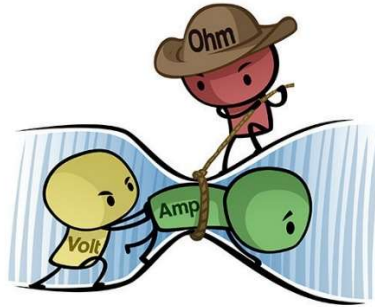
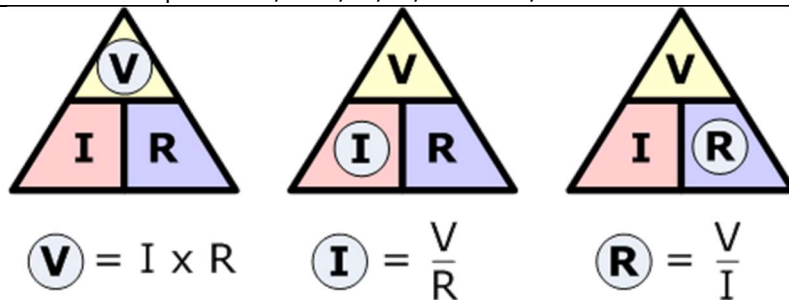
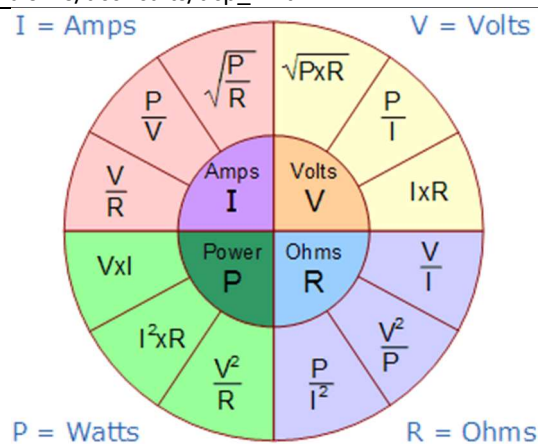

Figure-3.1: A good picture to show the relationship between voltage, current and resistance.
Figure-3.2: A good picture for memorizing Ohm's Law.
Figure-3.3: The relationship of Voltage, Current, Resistance and Power.
The basic elements of electronic circuits are VOLTAGE (V), CURRENT (I) and RESISTANCE (R). Voltage is the electrical pressure that forces electrons through a conductor, current is the rate at which the charges are flowing, and resistance is the tendency of the conductor to resist the current flow. Larger resistance means the current flowing through the conductor is reduced in magnitude (not speed) (Figure-3-1). Ohm's Law shows their relationship (Figure-3.2). Figure-3.3 is enhanced to show Ohm's Law with POWER.